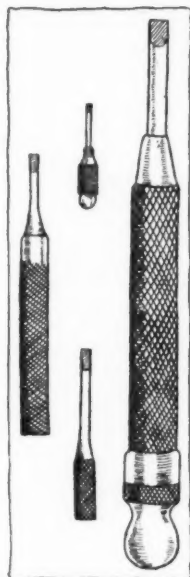

Fig. 1—Edelmann
—Fig. 1 shows the original idea embodied in the new telescopic screwdriver made by E. Edelmann & Co., Chicago. This device is a hollow screwdriver, in which another hollow one is included. The latter, in turn, contains a third one and in this the fourth one is found. The overall length of the whole device is 6 inches, the second, third and fourth screwdriver being 3, 1.75 inches and 1 inch long, respectively. All these tools are made of steel and their surfaces are grated in the manner of a file. The fourth screwdriver is threaded into the third, but this fits loosely into the second and the latter in the same manner into the largest which is closed by a cap threading on its end. Thus, for most jobs, the outermost screwdriver may be used, and the other tools contained in it do in no way interfere with its work, but if smaller screws are to be handled, out come the tools fitted for the work by virtue of their size.
**Novel Gasoline Gauge**—A new gasoline gauge has been placed on the market, which is of the dipping type, and is made of metal. The special characteristic of this gauge is that the metal is coated with a special compound, whereby the evaporation of gasoline is so retarded that it shows on the gauge 5 minutes after the latter has been drawn out of the tank. Fig. 2 shows the gauge. It is stamped with a hole for the Prest-O-Lite key in one end and with an opening in the other, permitting of hanging the device to a nail or the like. The figures 1, 2, etc., denoting gallons, are pressed in the metal at the proper places, the gauge being made for various types of cars. The gauge here shown is made by Traut & Heine, 1 Union Square, New York City.